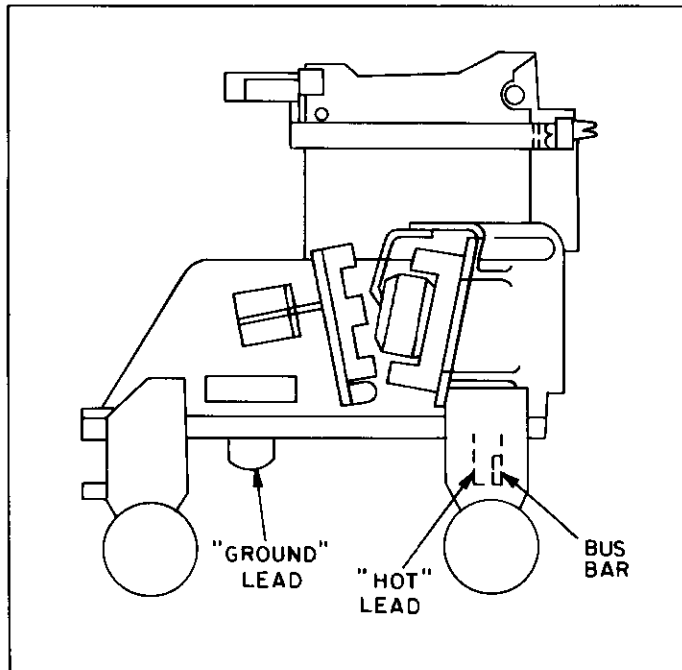

Figure 9. Vacuum interrupter integrity test
2. Connect the "hot" lead and the "ground" lead to the contactor as shown in Figure 9. Apply 20-kV (RMS) 60-Hz power and hold for a minimum of five seconds.